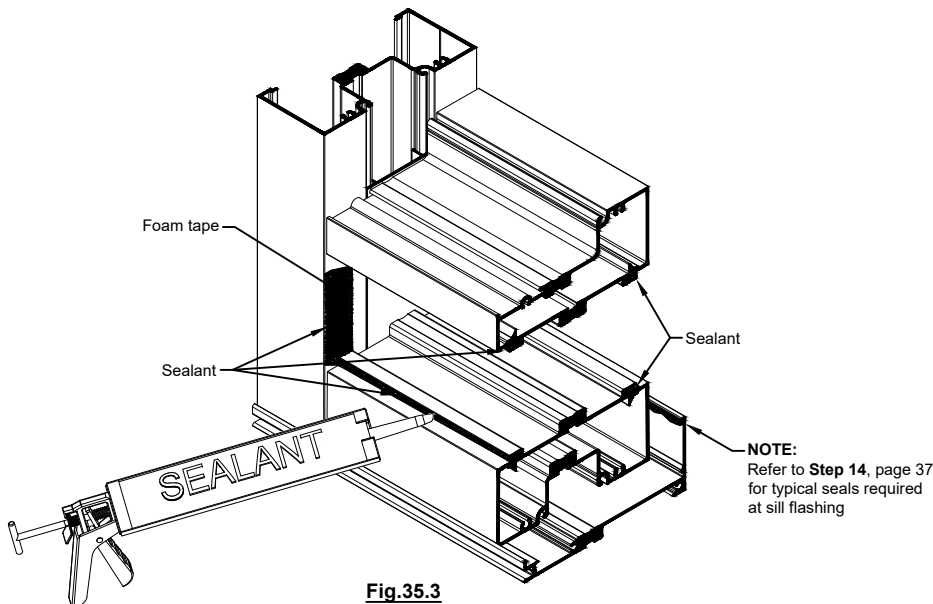

Fig.35.3
- G. *Optional:* Place one-sided closed cell adhesive tape along the edges of the vertical where the sidelite base covers will be installed. Place a bead of sealant onto the tape. **SEE Fig. 35.3.**
- H. Place a bead of sealant into the receptor areas of the snap-in adaptor. **SEE Fig. 35.3.**